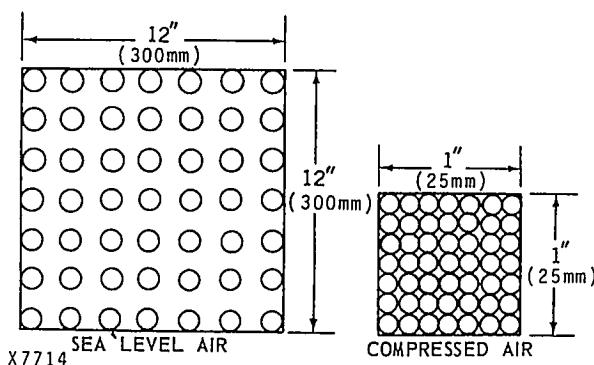

Fig. 2 — Air Can Be Compressed
(1) Air will compress; one cubic foot (28 L) of air can be packed into one cubic inch ( $16 \text{ cm}^3$ ) or less (Fig. 2).